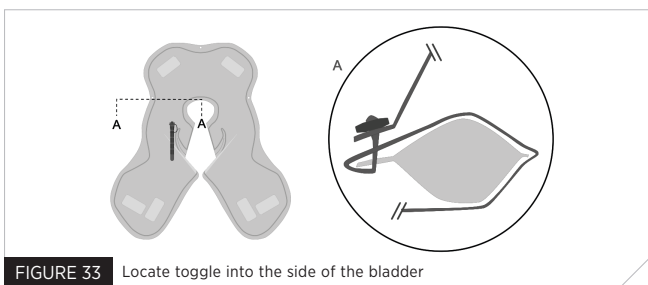

FIGURE 33 Locate toggle into the side of the bladder
3. Locate the toggles on each side of the hood and pass them through the punched holes on the sides of the bladder (Fig 33).